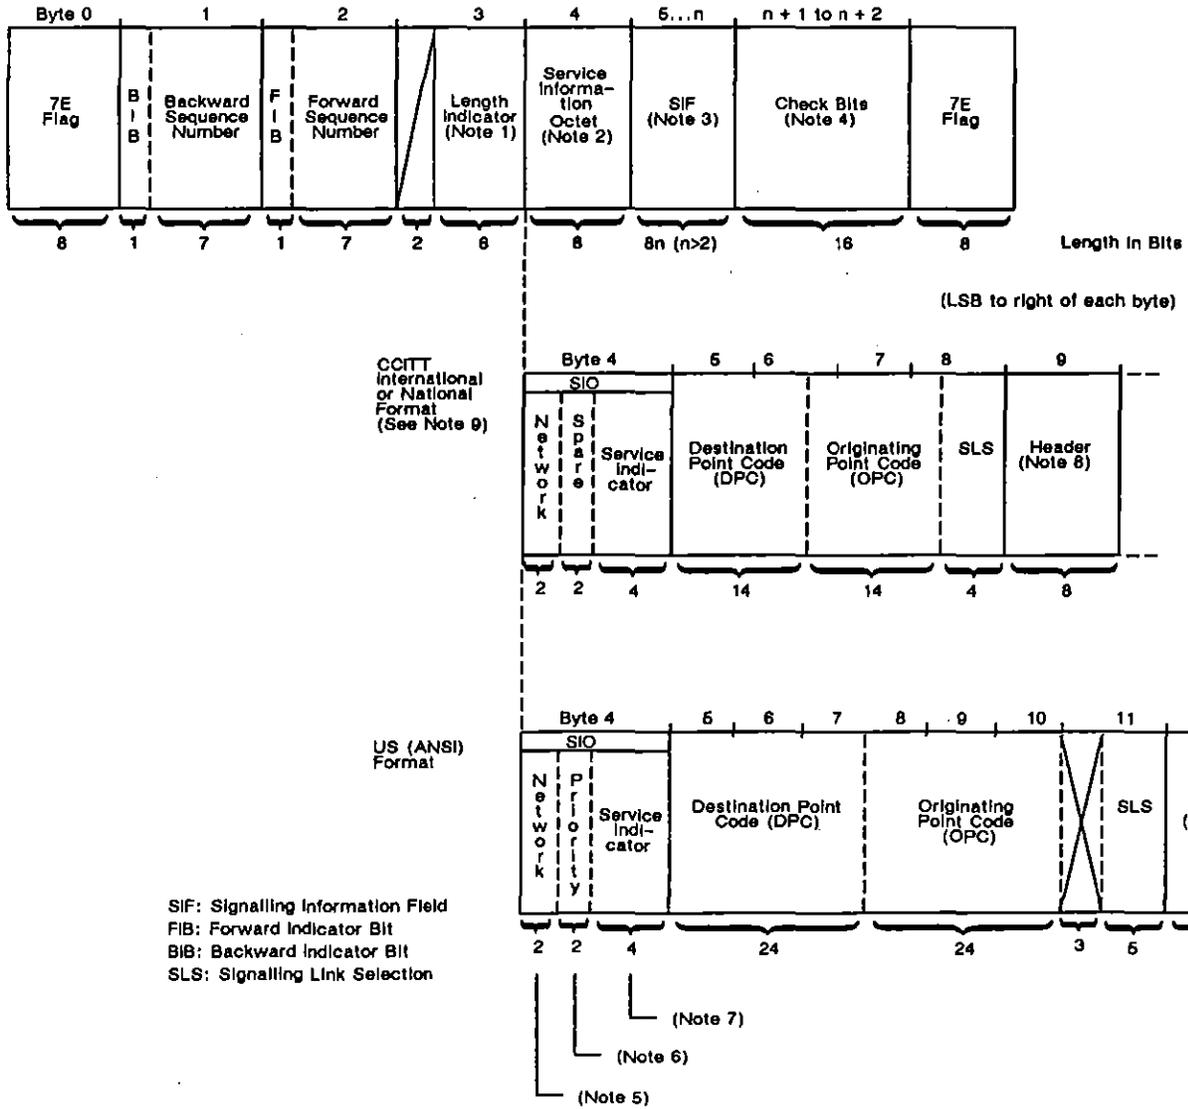
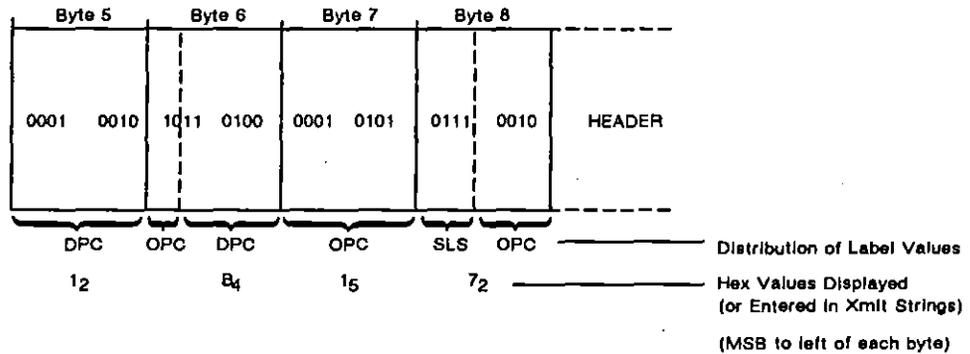

Figure 46-9 Format of a Message Signal Unit (MSU).
Figure 46-10 CCITT labels are entered and transmitted as shown.
Figure 46-9 shows the general structure of a Message Signal Unit. Figure 46-10 illustrates how CCITT International or National labels are entered and transmitted. MSU types are defined in Table 46-1. Table 46-2 through Table 46-5 define possible MSU headers for Network Management, SCCP, ISDN, and TUP MSU's.
9. Since the label in CCITT International or National Format is not byte-aligned, the values displayed in hexadecimal on the INTERVIEW screen are skewed. As a result, CCITT labels must be interpreted as shown in Figure 46-10.